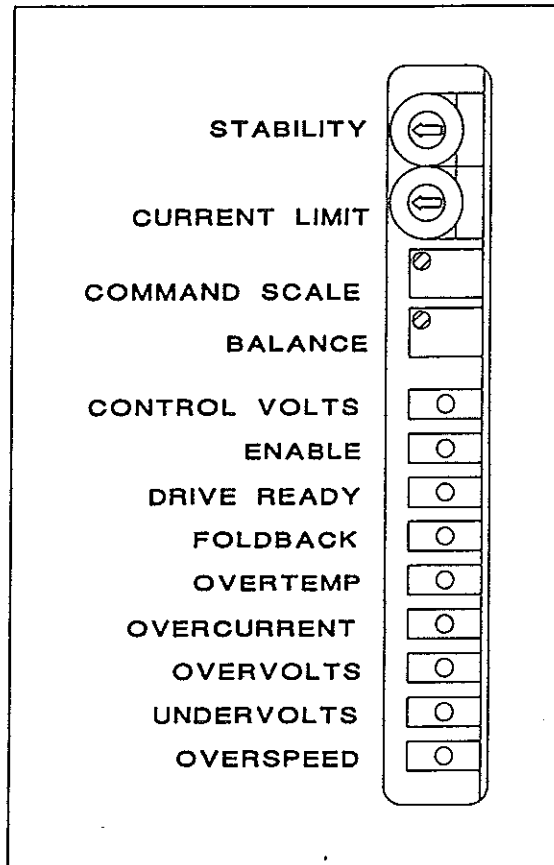

Figure 5.1. BDS4 Status LED's
The status of the BDS4 modules is indicated by three (3) Green and six (6) Red LED's. Refer to Figure 5.1 for the LED configuration. The diagnostic